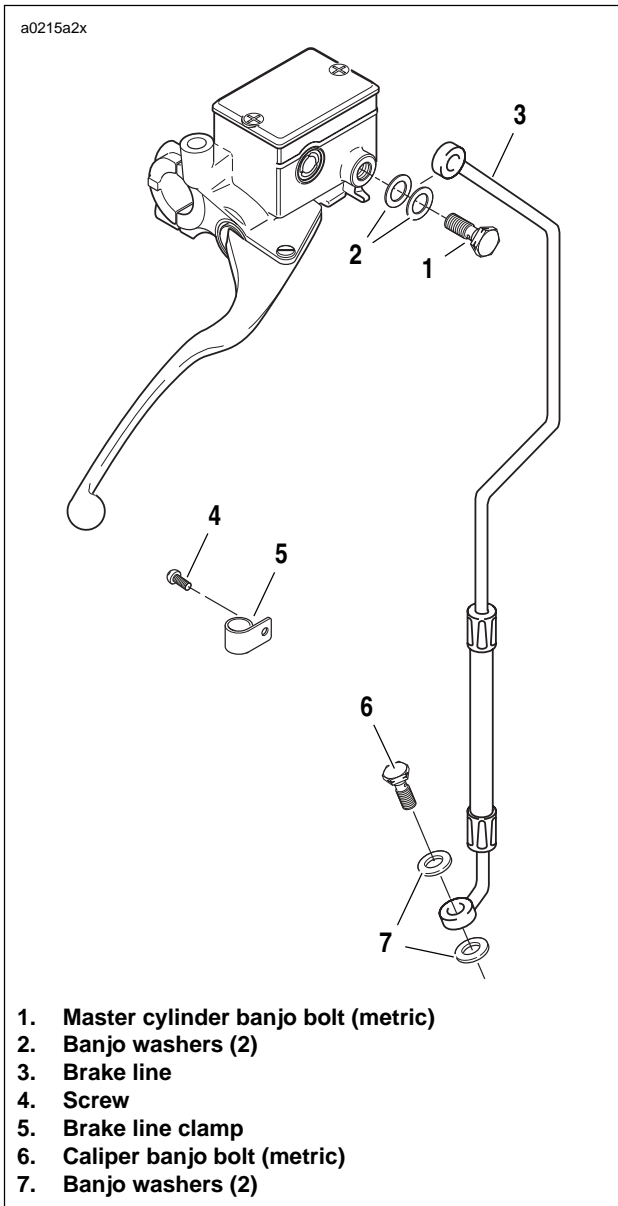

Figure 2-44. Front Brake Line
2. See Figure 2-44. Remove screw (4) to detach brake line clamp (5) from right side of lower triple clamp. Remove brake line from wireform.
1. See Figure 2-44. Connect brake line to master cylinder using two **new** banjo washers (2) and banjo bolt (1) (metric). Loosely install bolt into master cylinder.
2. From the master cylinder, the brake line runs downward in front of the right handlebar, where it turns inboard at the upper triple clamp. Loosely install clamp (5) with screw (4) to attach front brake line to right side of lower triple clamp. Position brake line in wireform.
3. Connect brake line to caliper using two **new** banjo washers (7) and banjo bolt (6) (metric). Tighten banjo bolt (6) to 16-20 ft-lbs (22-27 Nm).
4. Tighten clamp screw (4) on lower triple clamp to 36-60 **in-lbs** (4-7 Nm).
5. Tighten master cylinder banjo bolt (1) (metric) to 16-20 lbs (22-27 Nm).